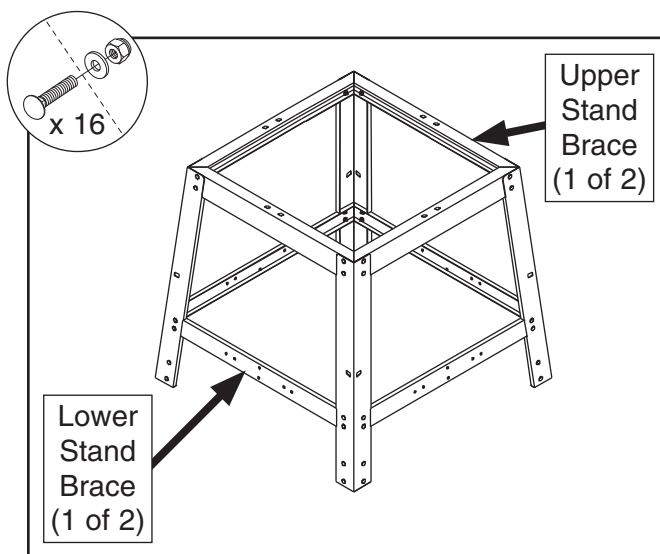

Figure 10. Stand assembled without lower legs.
4. Connect both sides of upper stand, (2) upper stand braces, and (2) lower stand braces with (16) $\frac{5}{16}$ "-18 x $\frac{3}{4}$ " carriage bolts, $\frac{5}{16}$ " flat washers, and $\frac{5}{16}$ "-18 hex nuts (see **Figure 10**).